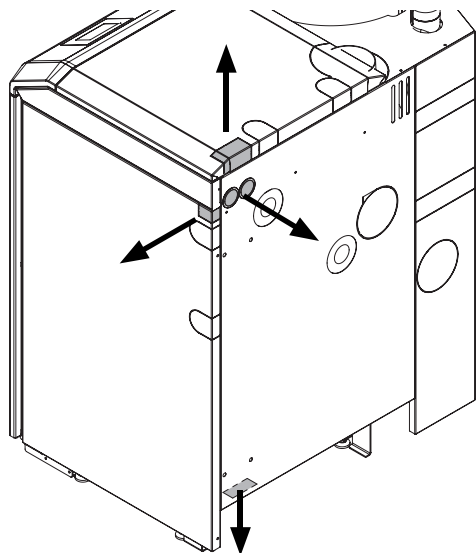

Fig. 118 Cable feed-throughs in the cladding of the BioWIN 2 Touch – view from rear
- ▶ The terminal block connection (screw less cage-spring-type terminals) should be established with fine-wire PVC-sheathed cables. The cables can be laid from the top, bottom, right and rear, through the pre-punched feed-throughs (Fig. 118).